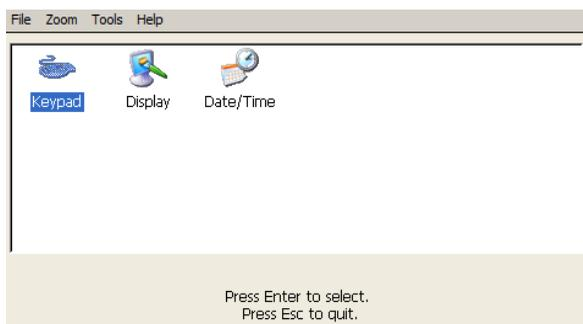

Figure 6.3
6.6.1 Pressing the [F2] button (see Figure 6.2) activates the window shown in Figure 6.3 for setting up the device
F4 → **F4 Device** – opens the window for setting up the device (see Section 6.6. Setting up KI 6700 and Figure 6.3).